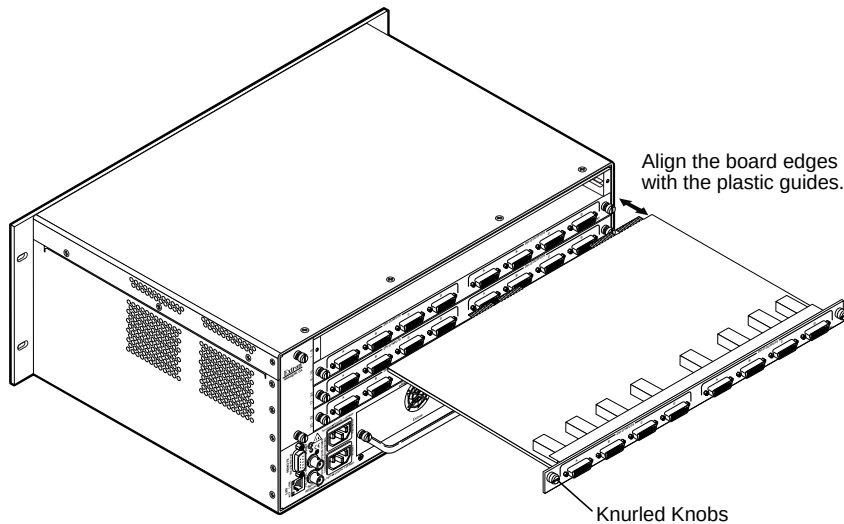

Figure 13. Remove and Install an I/O Board
2. Rotate the left and right knurled knobs to completely loosen the captive screws (see figure 13 on the next page).